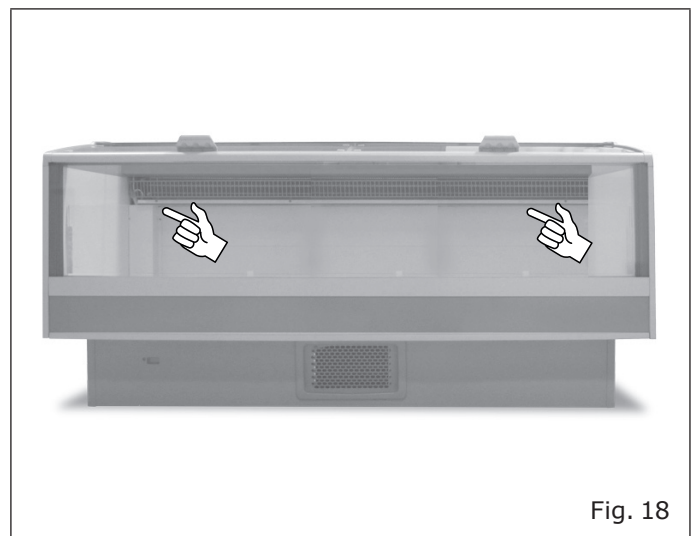

Fig. 18
- The goods do not exceed the load line ("Fig. 18").